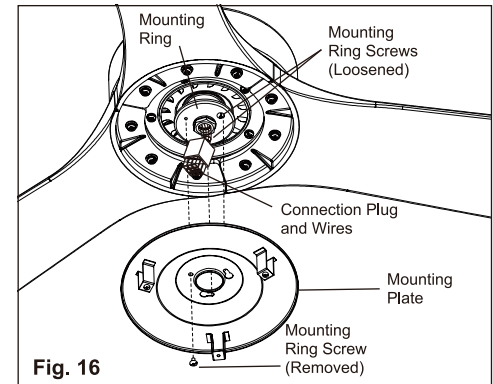

Fig. 16
Step 3. Remove one of the mounting ring screws. Retain mounting ring screw. Loosen the other two mounting ring screws (do not remove). (Fig. 16)
Step 4. Raise the mounting plate up toward the fan, and pass the connection plug and wires from the fan through the hole in the center of the mounting plate. Raise the mounting plate to the mounting ring, and pass the loosened screws in the mounting ring through the keyhole slots in the mounting plate, and rotate the mounting plate (clockwise) until it locks in place against the screws at the narrow ends of the keyhole slots. (Fig. 16)
Align the remaining hole in the mounting plate with the remaining hole in the mounting ring. Install the mounting ring screw that was removed from the mounting ring into the aligned holes. Tighten all 3 screws to secure. (Fig. 16)